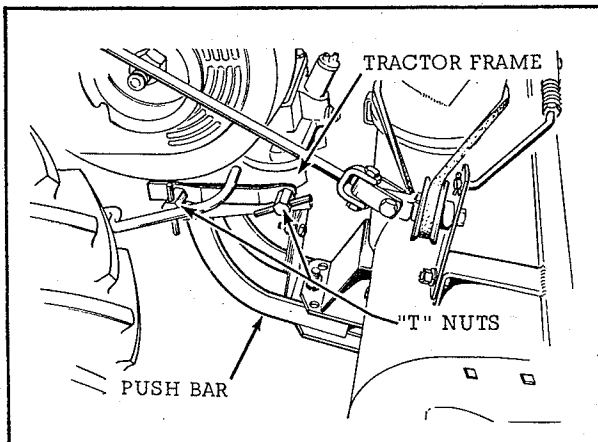

Fig. 6
1. The snow plow push bar attaches to the front of the tractor frame as shown in figure 6. Loosen the 2 "T" nuts on the push bar hitch and engage the front hitch rod securely into the front notch or groove on the lower front end of the tractor frame. Depress the tractor handles and the rear hitch rod will seat itself into the rear notch or groove on the tractor frame. When the hitch rods are well seated in the notches, tighten the "T" nuts securely.